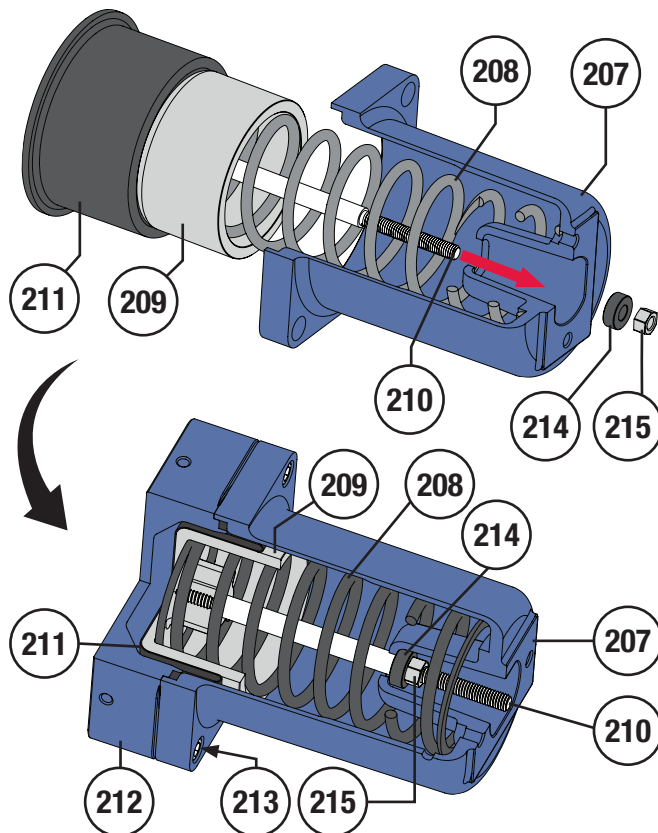

Figure 48 Spring Barrel Sub-Assembly
- The piston stem (Key 210) and piston (Key 209) are press fit at factory and should be treated as a single part. Install the piston/piston stem into the spring barrel (Key 207) as shown in Figure 48.